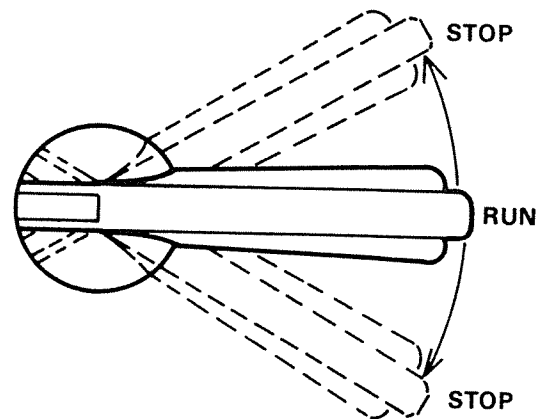

Figure 7. Testing Kill Switch.
2. In center position, T 2938-1 tester should remain dark, ohmmeter should indicate ∞ (infinity). If not, switch is defective. Figure 7.
3. Place switch in both left and right positions. T 2938-1 tester should light, ohmmeter should drop to zero. If tester does not light or is dim (assuming tester batteries are fresh) or some resistance is noted on the ohmmeter in either switch position, switch is defective. Figure 7.